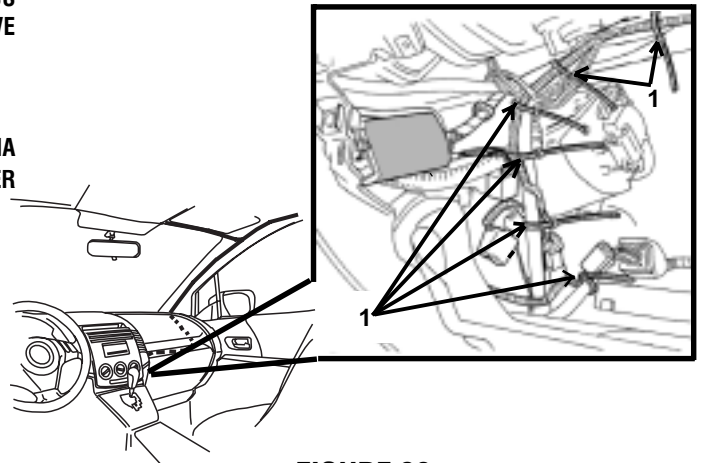

FIGURE 38
4. LOOP THE EXCESS DVD MAIN HARNESS IN THE GLOVE BOX AREA. (AS SHOWN IN FIGURE 38) SECURE THE HARNESS USING 6 THICK TIE WRAPS IN THE LOCATIONS INDICATED (1).